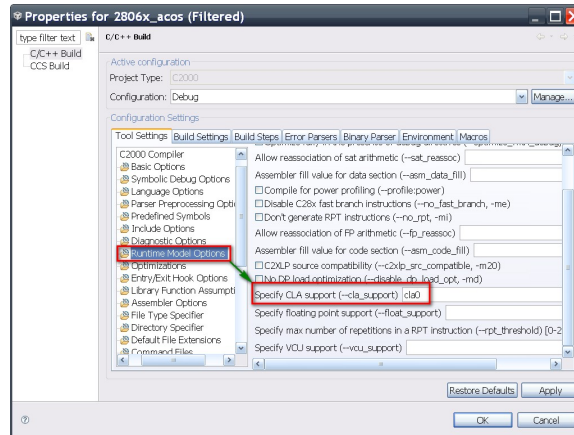

Figure 4.4: Turning on CLA support
2. Enable the **-cla_support** option in the **Runtime Model Options** to **cla0** as shown in Fig. 4.4